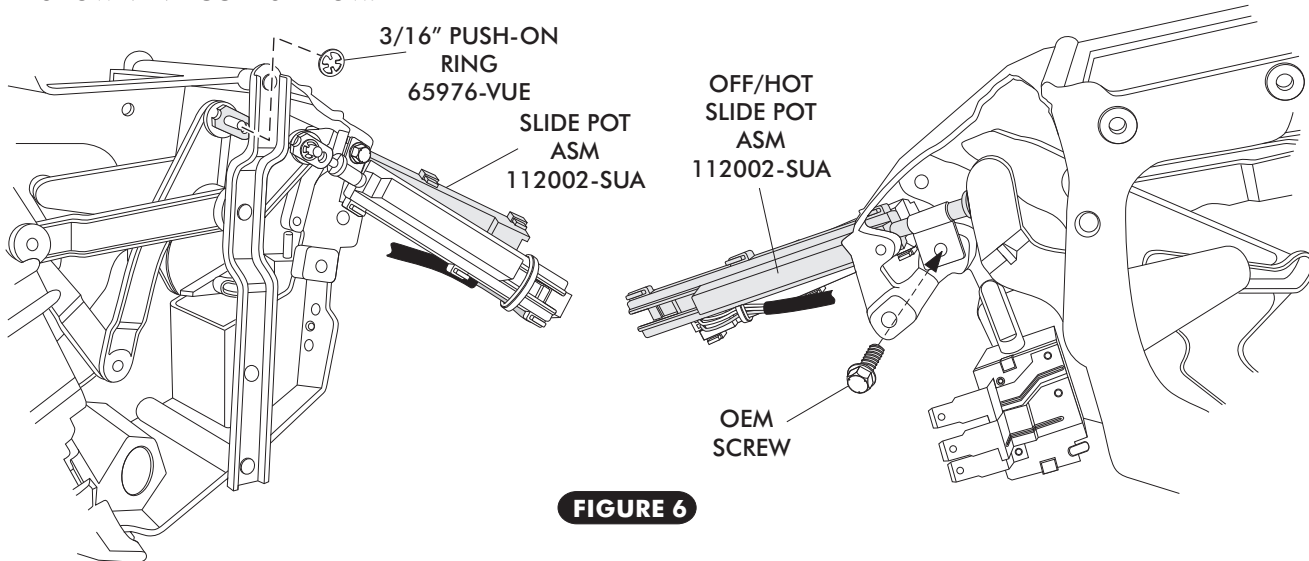

FIGURE 6
- INSTALL SLIDE POT ASM ON THE OFF/HOT LEVER. SEE FIGURE 6 BELOW.
- INSTALL SLIDE POT LEVER PUSH ROD ONTO OEM CABLE MOUNTING STUD ON LEVER. SEE FIGURE 6 BELOW.
- SECURE THE SLIDE POT ASM TO THE CONTROL PANEL USING THE OEM SCREW IN THE OEM CABLE CLAMP MOUNTING LOCATION. SEE FIGURE 6 BELOW.
- SECURE SLIDE POT LEVER PUSH ROD ONTO OEM CABLE MOUNTING STUD USING 3/16" PUSH-ON RING AS SHOWN IN FIGURE 6 BELOW.